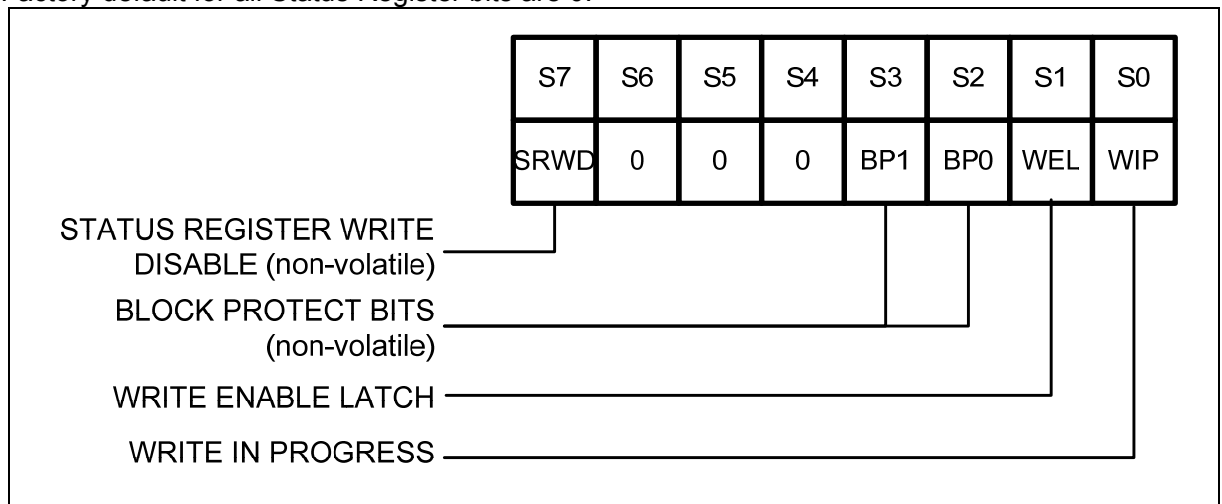
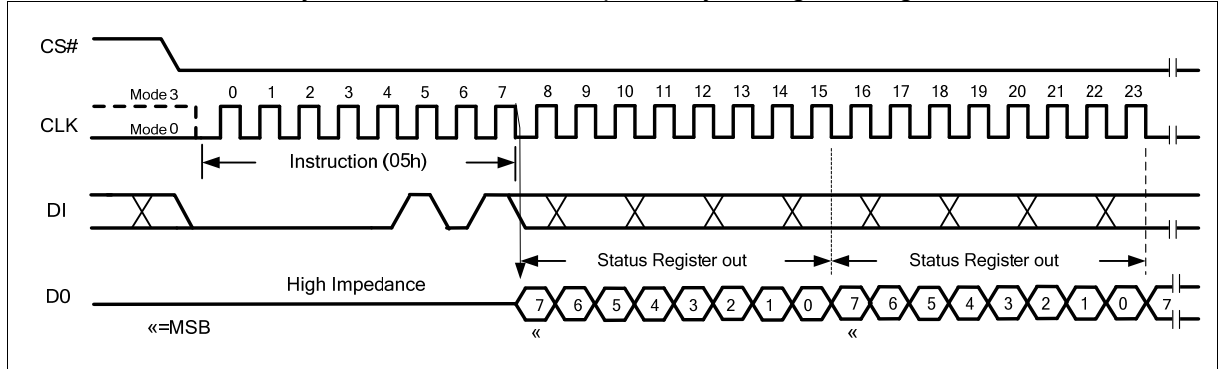

Figure 4 Status Register
Figure 7 Read Status Register Instruction
The Write Enable (WREN) instruction (Figure 4) sets the Write Enable Latch (WEL) bit in the Status Register to a 1. The WEL bit must be set prior to every Write and Write Status Register instruction. The Write Enable (WREN) instruction is entered by driving CS# low, shifting the instruction code "06h" into the Data Input (DI) pin on the rising edge of CLK, and then driving CS# high.
The Read Status Register instructions allow the 8-bit Status Registers to be read. The instruction is entered by driving CS# low and shifting the instruction code “05h” into the DI pin on the rising edge of CLK. The status register bits are then shifted out on the DO pin at the falling edge of CLK with most significant bit (MSB) first as shown in Figure 7. The Status Register bits are shown in Figure 4 and include the WIP, WEL, BP1-BP0 and SRWD bits.
The Write Status Register (WRSR) instruction allows the Status Register to be written. Only non-volatile Status Register bits SRWD, BP1, BP0 can be written to. All other Status Register bit locations are read-only and will not be affected by the Write Status Register (WRSR) instruction. The Status Register bits are shown in Figure 4, and described in 11 Status Register.